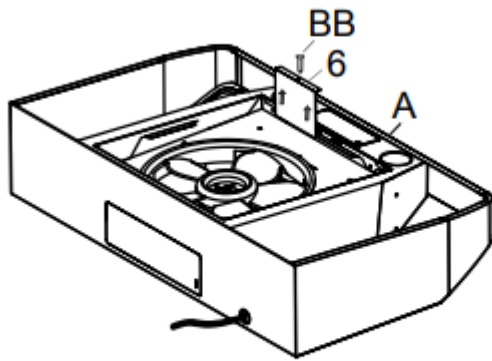

Fig.12
- If you are venting indoors, unscrew the screw holding cover (6) in place and remove the cover as per Fig. 12 . DO NOT REMOVE ANY OTHER VENTING HOLE COVER .